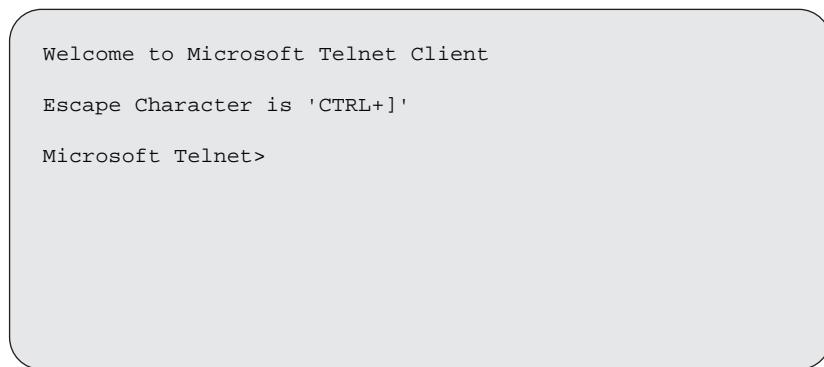

Figure 47. Telnet Screen
- 4.** At the command prompt, enter **ping IP address**, where the IP address is the numeric address or an alias. The computer returns a display similar to figure 47.
4. At the prompt, enter **telnet**. The computer returns a display similar to figure 47.